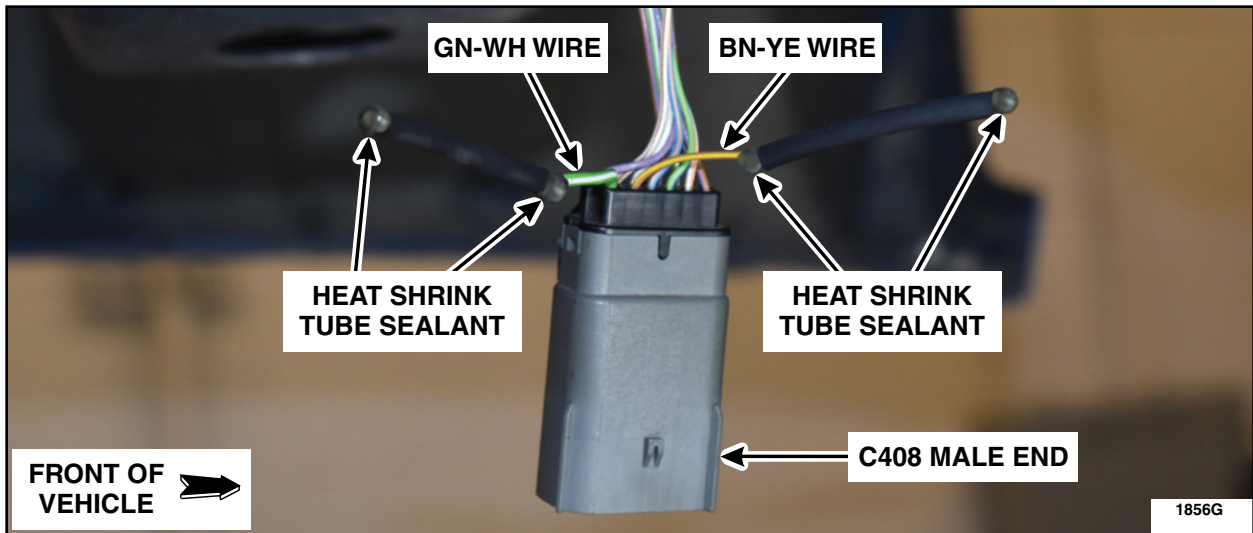

FIGURE 61
8. Install a piece of dual wall heat shrink tube on the GN-WH and BN-YE wires making sure the end of the wire is located in the middle of the tube. Evenly heat up the heat shrink tube until the heat shrink tube sealant bubbles out of both ends. See Figure 61.